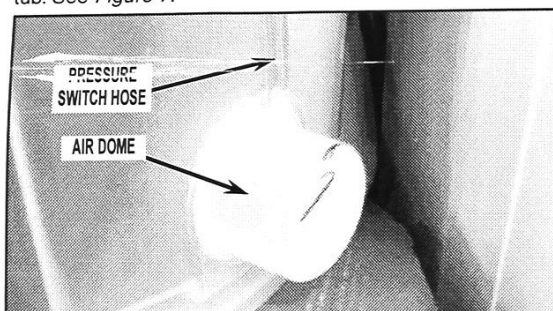

FIGURE 7
10. Disconnect pressure switch hose from air dome of the washer tub. See *Figure 7*.